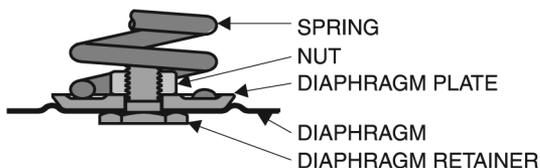

Figure 12
1. Diaphragm Assembly: Install the Pilot Diaphragm with convex side toward Diaphragm Plate and Main Spring (Refer to Figure 12). Tighten nut on the Diaphragm Retainer to approximately 5 to 6 ft-lbs (6.78 - 8.14 n-m) torque.